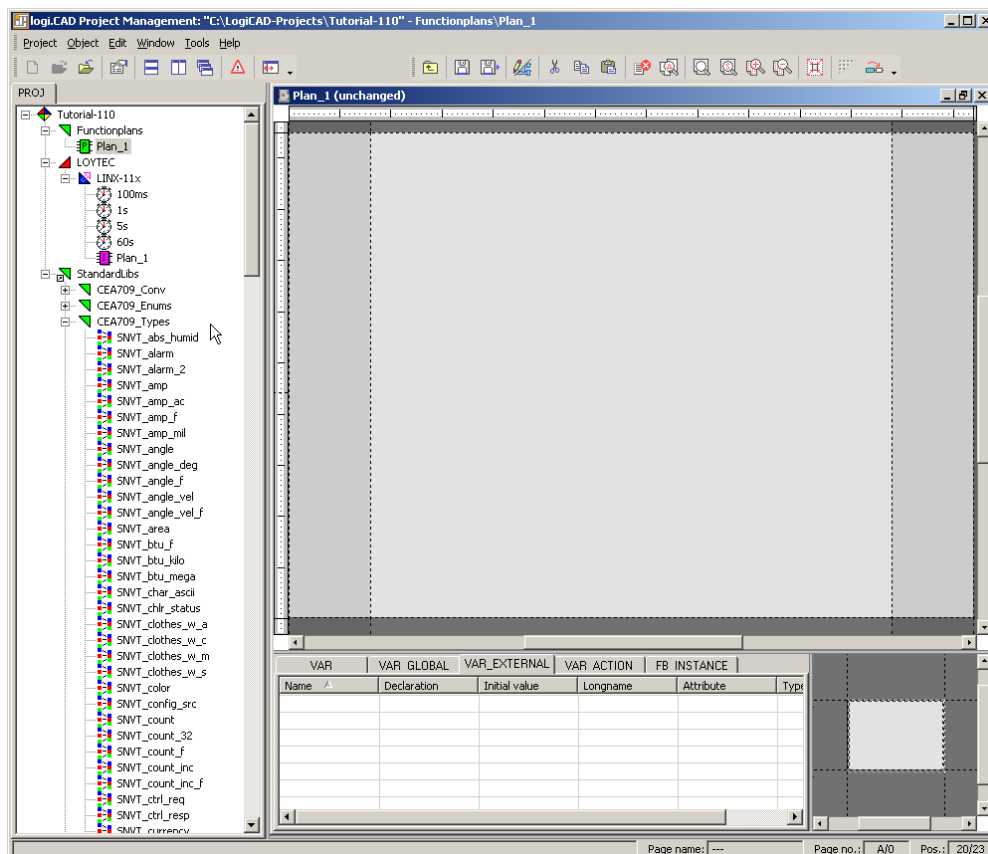

Figure 19: Edit Plan_1
7. As shown in Figure 19 below, expand the tree element **Functionplans** and double click **Plan_1** in order to start editing the plan.